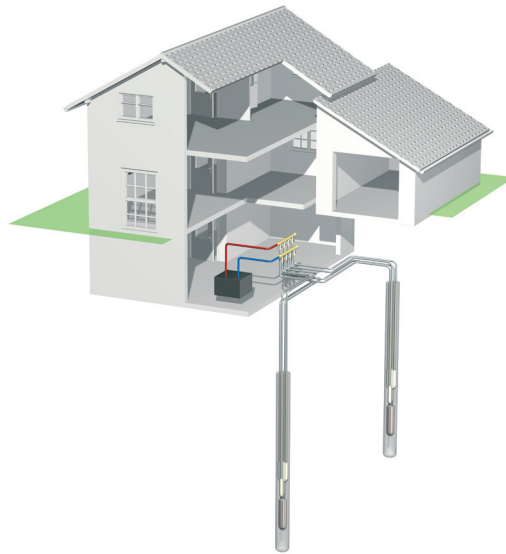

Fig. 1: Vertical ground loop, RAUGEO U-bend
- RAUGEO U-bends (vertical loop). See Fig 1.